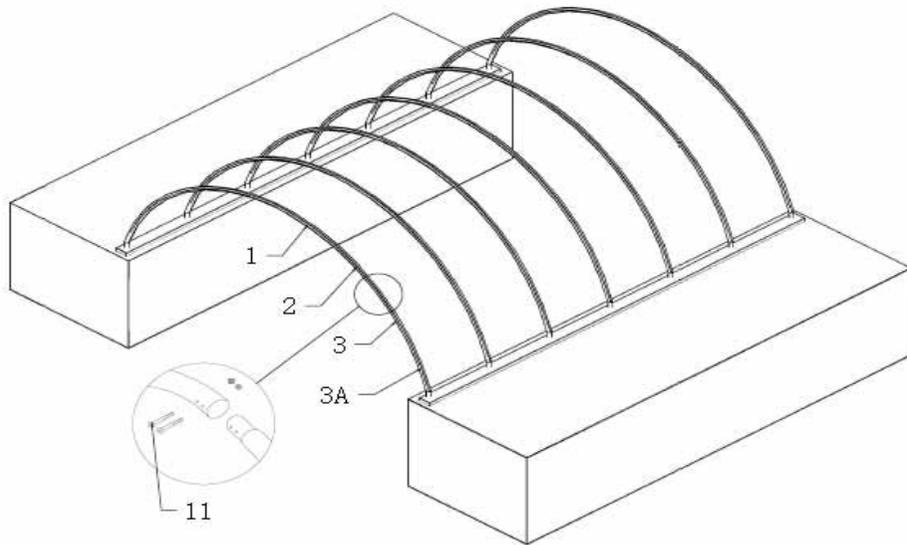

Figure 2
1. As Figure 2 shown find Top bent tube (part code 1), Middle bent tube (part code 2) and Sidewall bent tubes (part code 3) Lower bent tube (part code 3A). To connect them by Screw M10x90 (part code 11) , which makes one group of arches. Please NOTE the direction of the screw. DO NOT install the screws on the top of the truss where the fabric will rest.